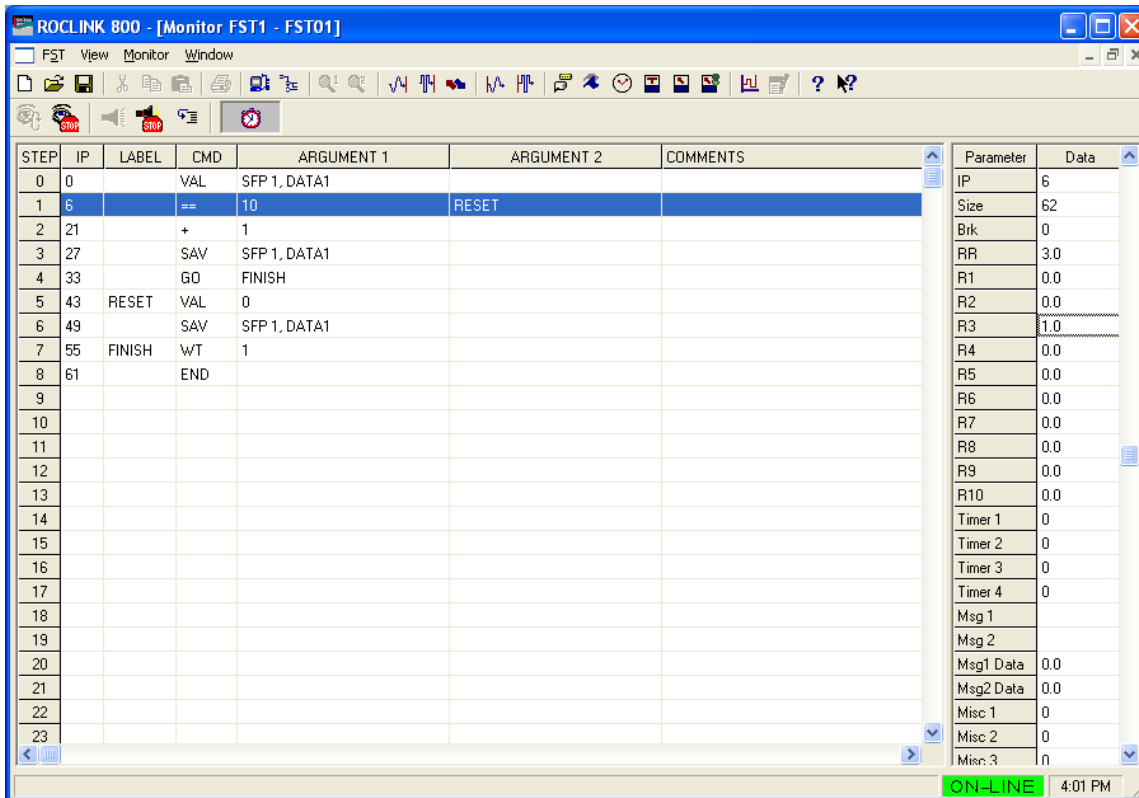

Figure 2-10. Trace Mode
When online, the FST Editor uses a trace mechanism that gives you the ability to debug FST program logic. Trace executes the FST function indicated by the Instruction Pointer (IP), moves the IP to the next FST function to be executed, and then stops. You can then examine the results of the FST function and determine the next FST function to be executed. The location of the action depends on the nature of the command. You can trace the action to the history log, I/O value, Point Numbers, softpoint, and so on (see *Figure 2-10*).